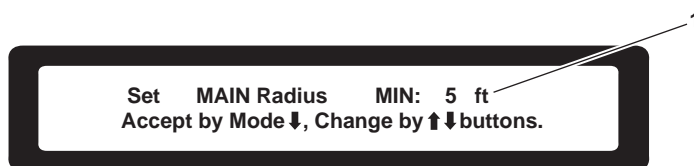

Figure 27. Minimum Radius Alarm Setting Screen
5. Press the MODE button (figure 2, item 3) and the down arrow button (figure 2, item 4) on the LMI receiver panel (figure 2, item 2) to reach the minimum radius alarm setting screen (figure 27).
6. Press the down arrow button (figure 2, item 4) or the up arrow button (figure 2, item 5) on the LMI receiver panel (figure 2, item 2) until the readout (figure 27, item 1) displays the radius value desired.